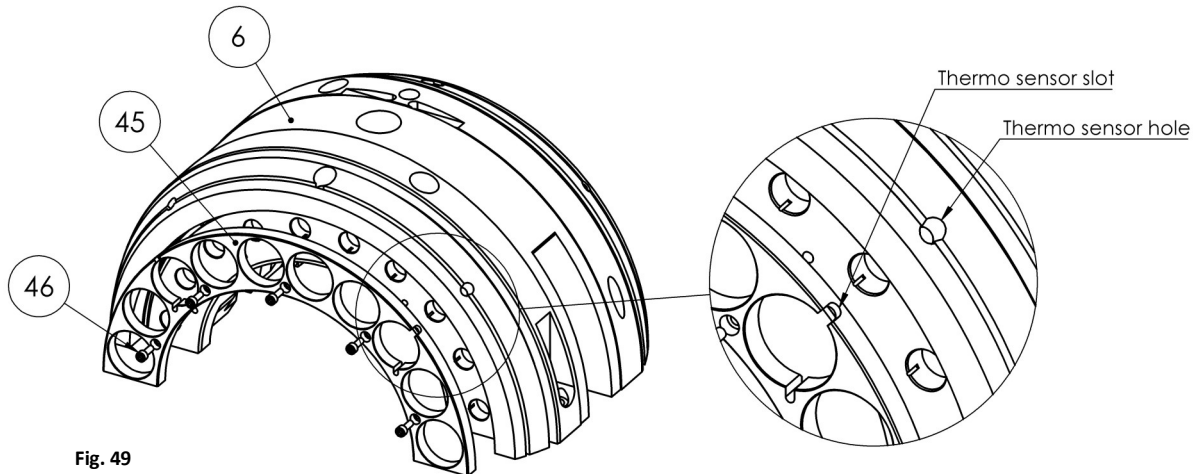

Fig. 49
- Place both parts of the Pad Ring (45) (Thrust and counter thrust side) on upper and lower shell (6, 7). The thermo sensor holes on the shell must be aligned with the thermo sensor slot on pad ring (Fig. 49).
- Tighten the screws (46) to the torque rates provided in 11.7 table 3.